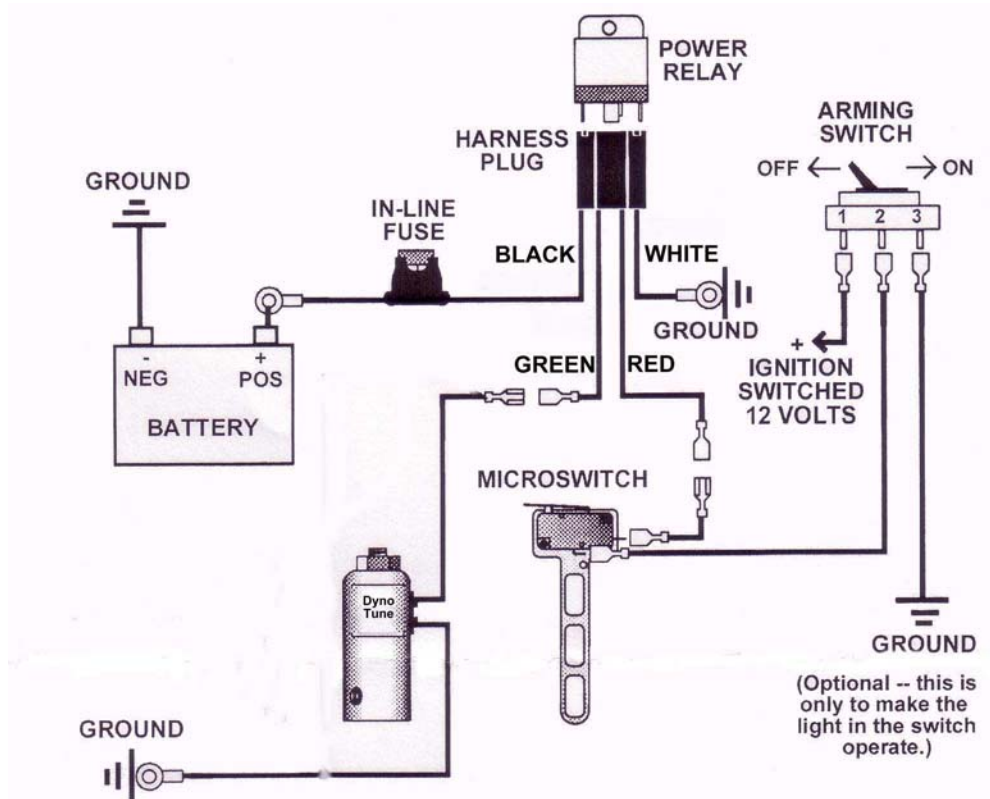

FIG. 9
Refer to figure 9 and the procedures in this section for electrical system installation. **WARNING! Death or injury may occur from working on a charged electrical system.**
- 8) Push the throttle wide open while the engine is off. The solenoid should make a clicking noise if it is working properly. If no noise is heard, check all wiring connections and each wire in schematic per figure 9. **NOTE: Nitrous flowing through the solenoid is needed to keep the coil from melting. Short, one-second power cycles will not hurt it but more than 5 seconds with no nitrous flowing though it will melt the coil and void your warranty.**